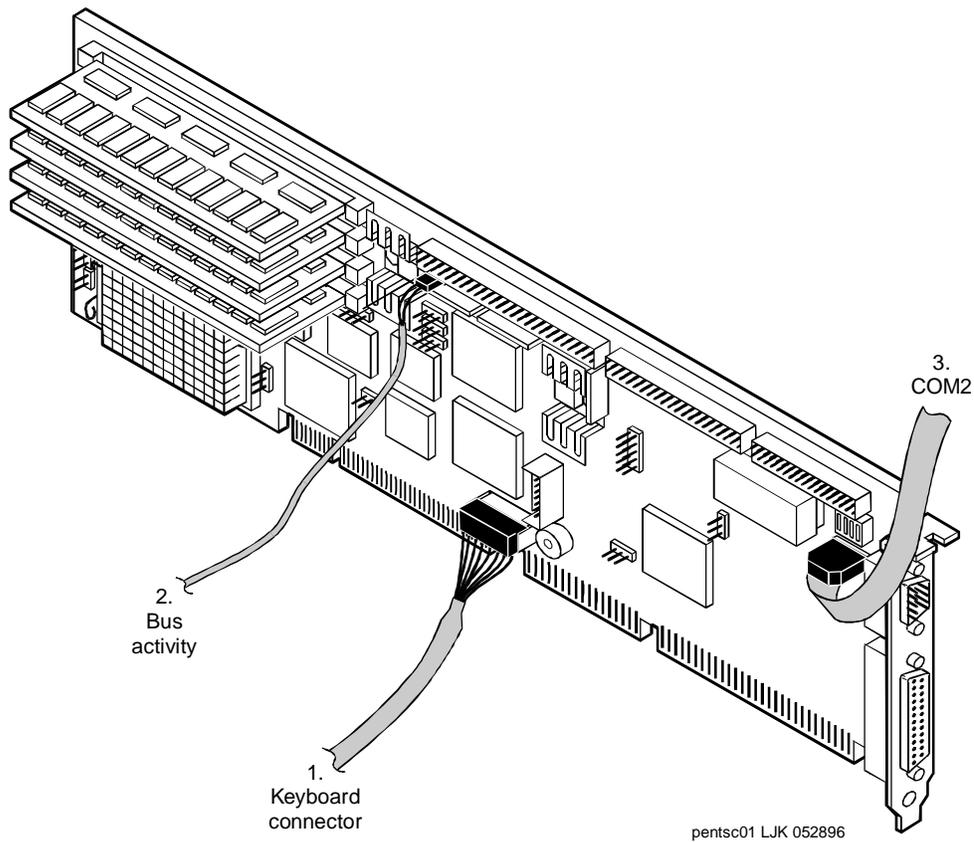

Figure 5-21. Attaching Cables to the P5120/CPU Circuit Card - Part 1
5. Attach the keyboard cable to the keyboard pins on the P5120/CPU circuit card (Figure 5-21).
7. Attach the disk activity cable to the P5120/CPU circuit card with the red lead toward the back of the MAP/100 (Figure 5-21).
8. Install the rear COM2 cable to the P5120/CPU circuit card (Figure 5-21).
9. Dress this cable to the side (Figure 5-21).